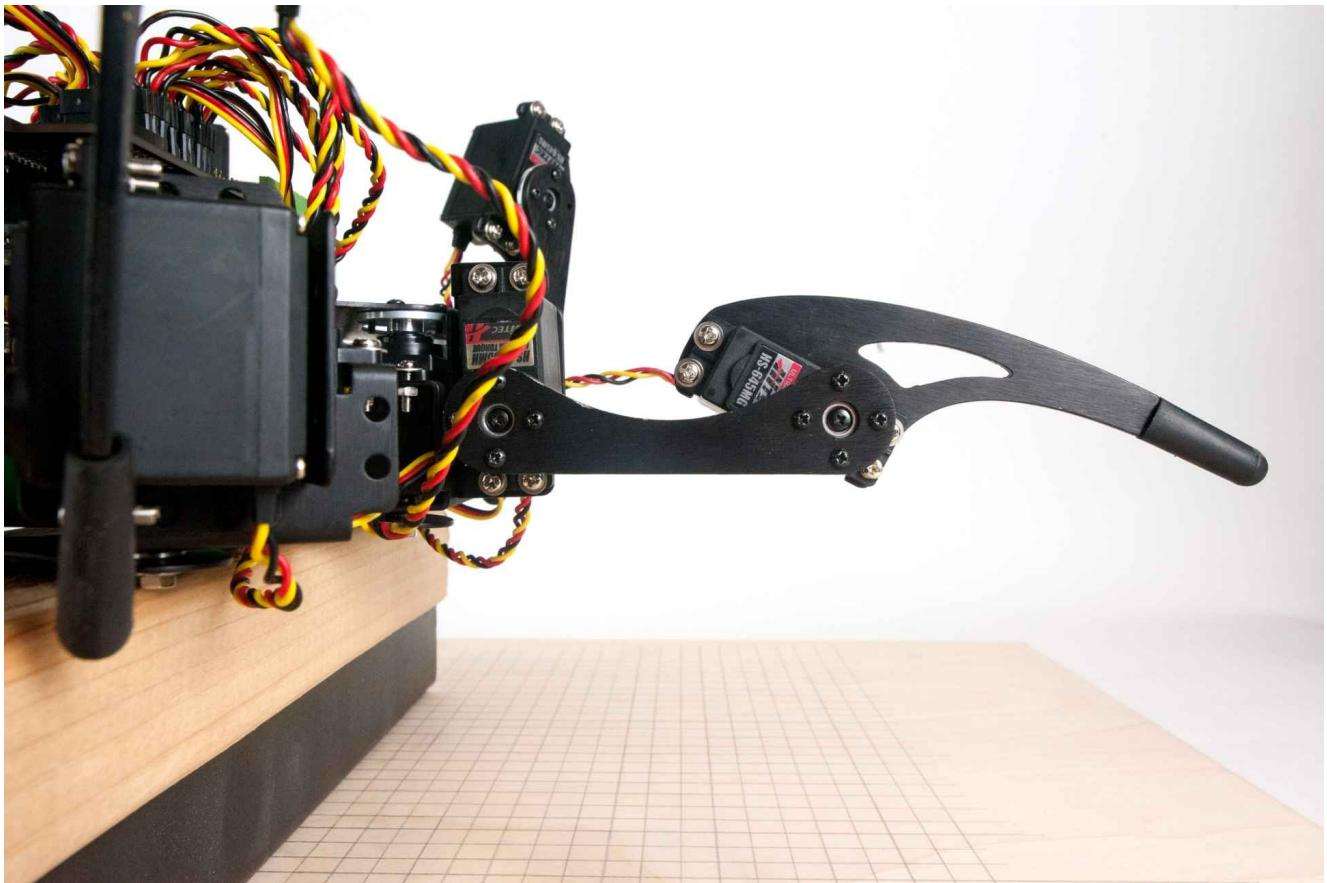

Figure 5-11. Trimmed femur
3. You will be setting the offset value for all six femurs: l1f, r1f, l2f, r2f, l3f, and r3f. Figure 5-11 shows a trimmed femur.